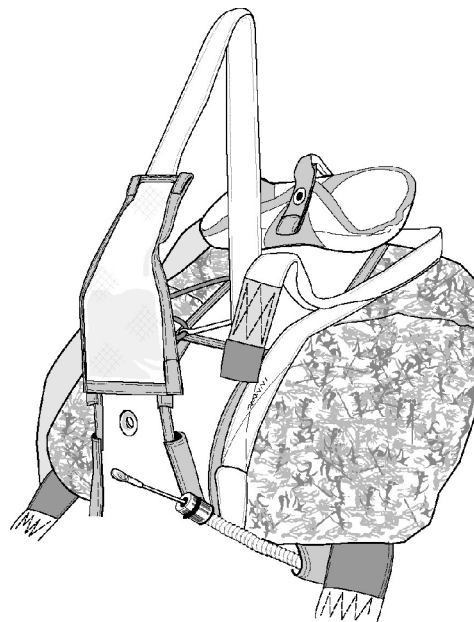

Figure 23. Swivel Protective Sleeve
j. Pull swivel protective sleeve down over swivel assembly and slide over end of flap #3 (Figure 23).